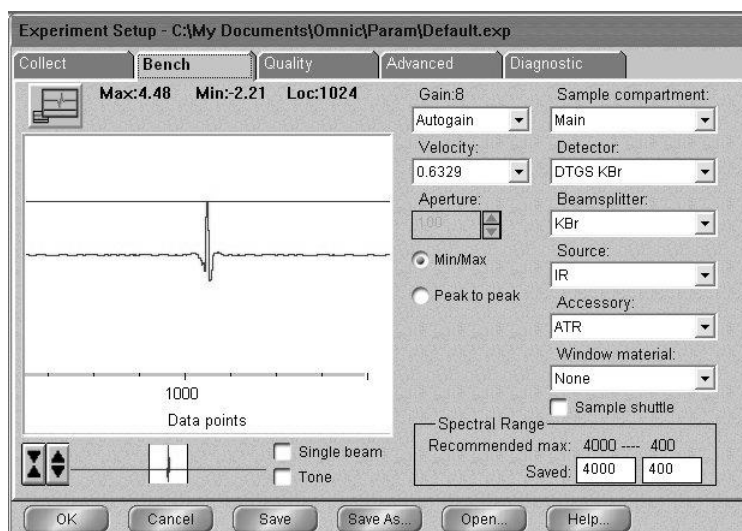

Figure 4 Bench menu for Horizon
2.4. Under the *Collect* tab, Figure 4, set the number of scans to > 20 and the final format to what you want (we usually use single beam as described below but if all you want is the transmittance or absorbance spectra choose that).